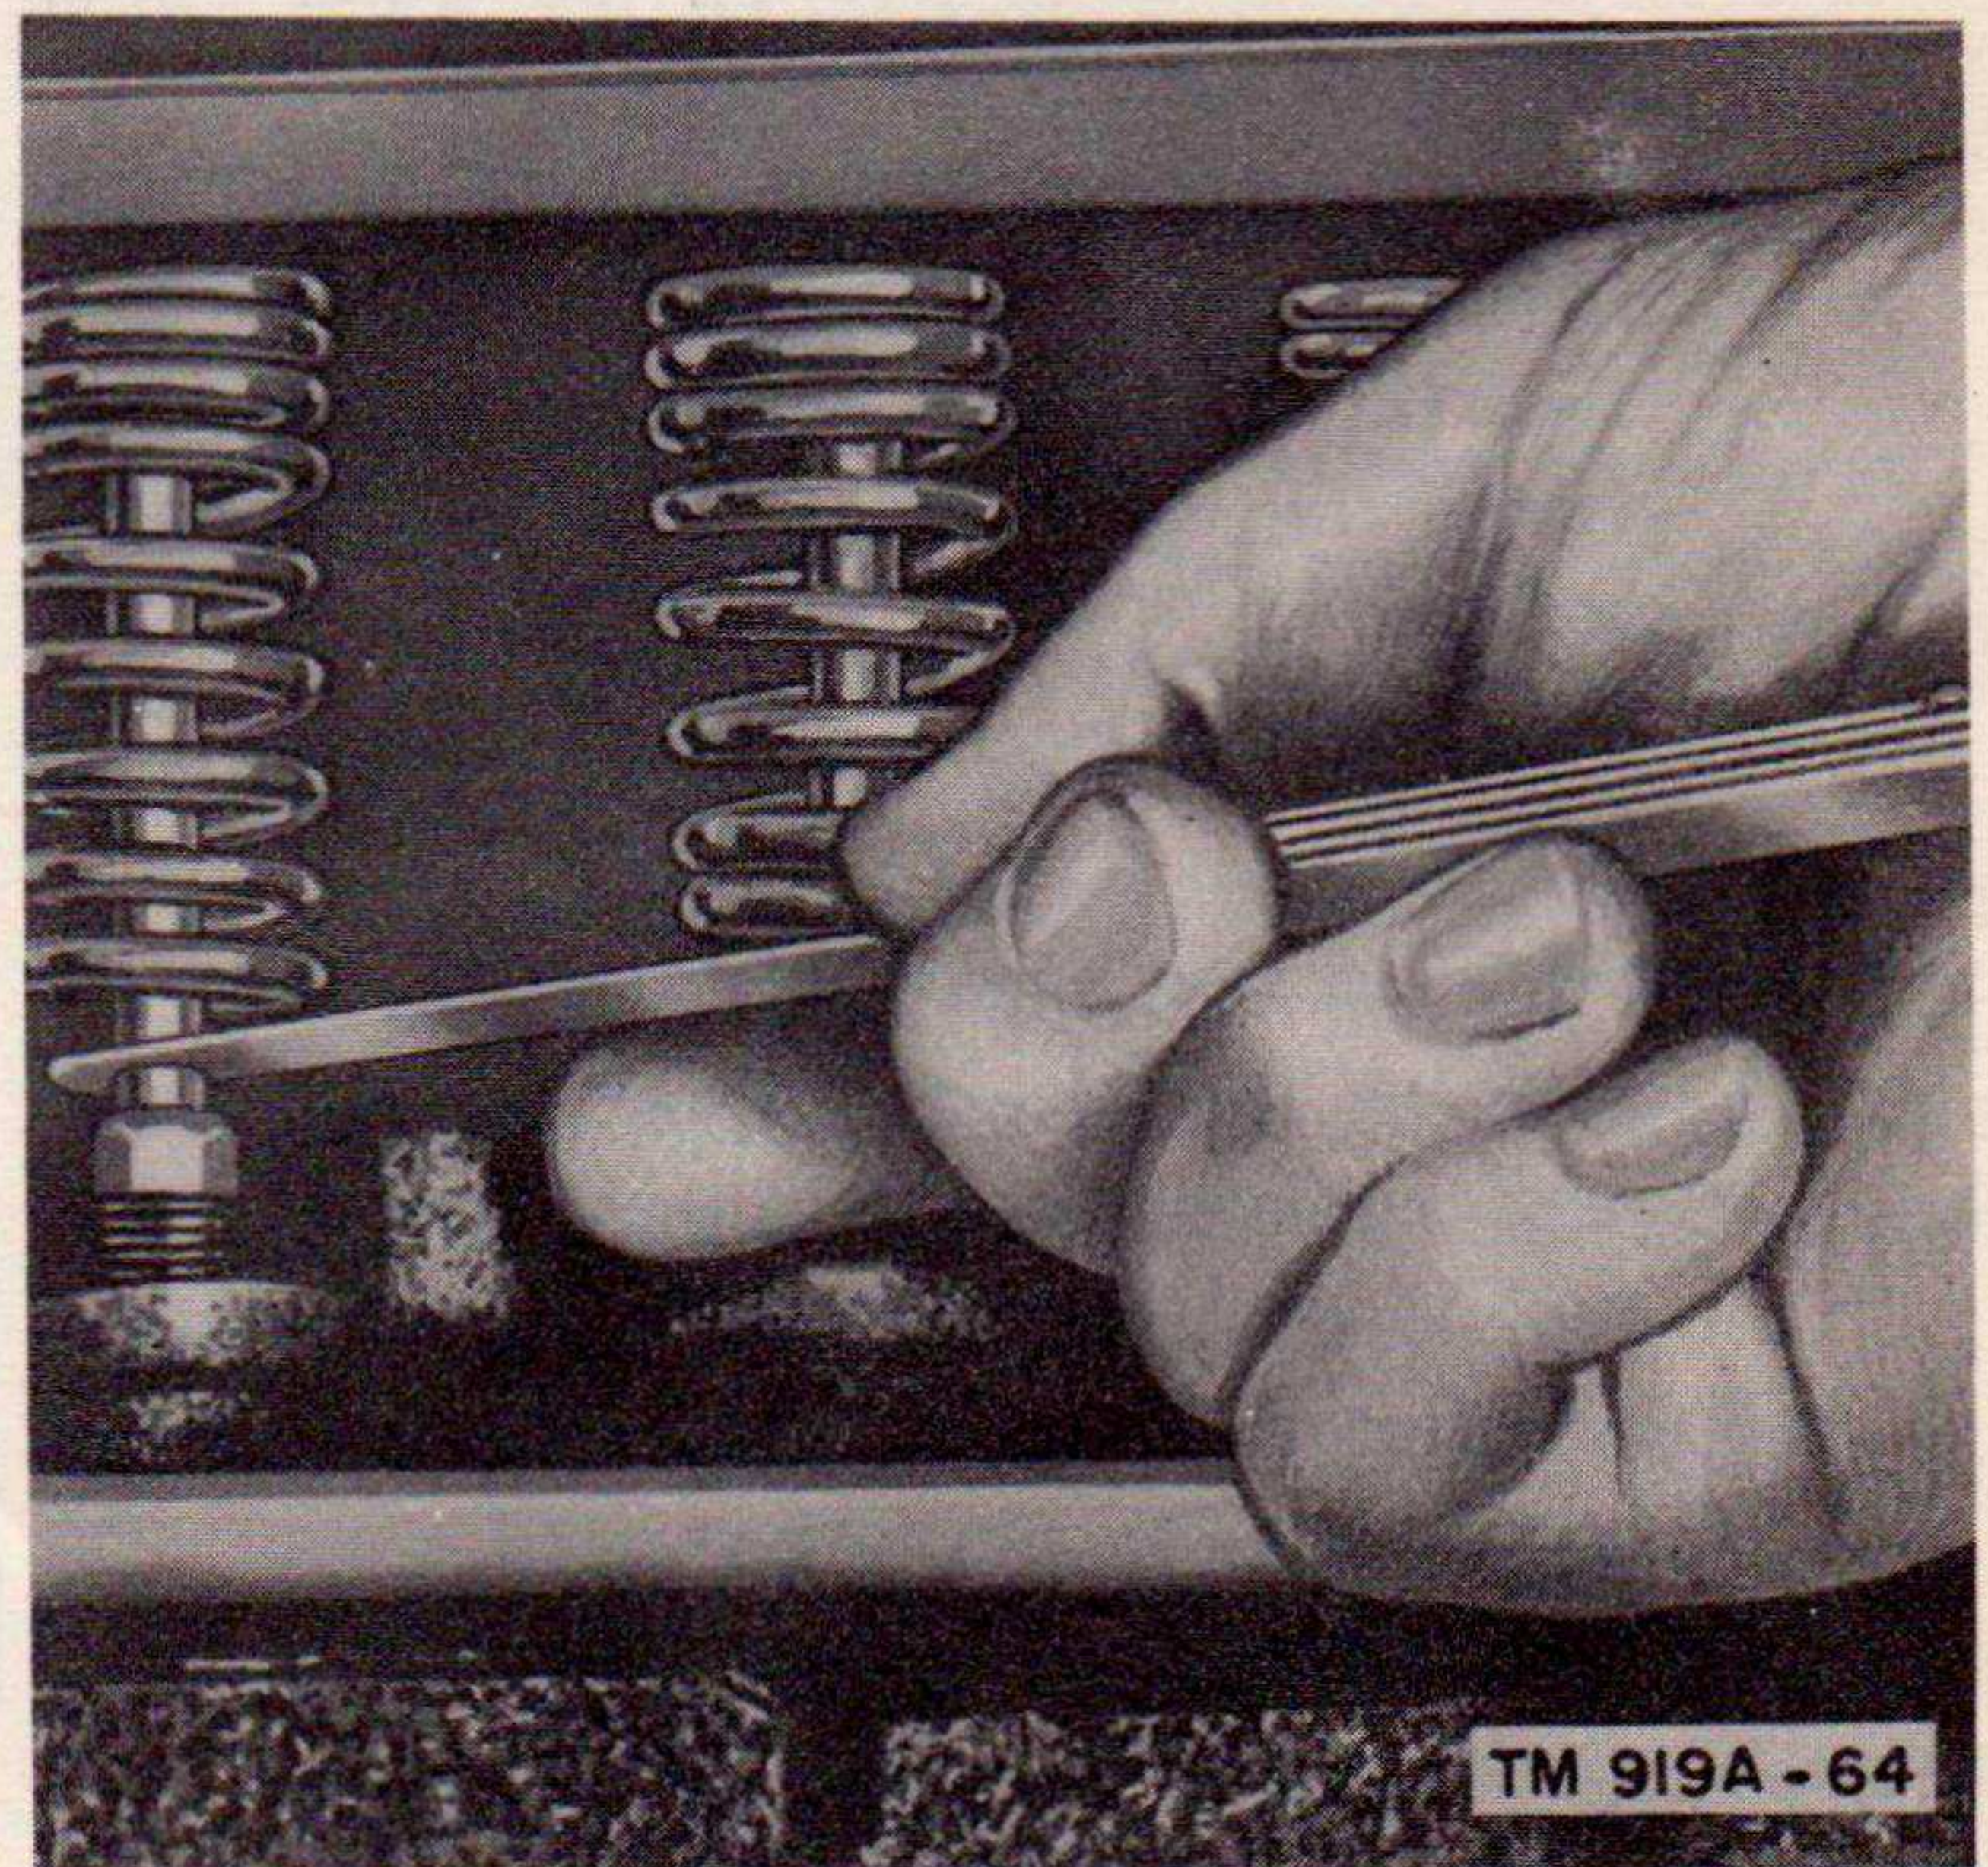

Figure 65. Checking valve tappet clearance.
*c. Valve Tappets.* Check the valve tappet clearance with a feeler gage (fig. 65). Both the intake and exhaust tappet clearance must be .014 inch with the engine hot.